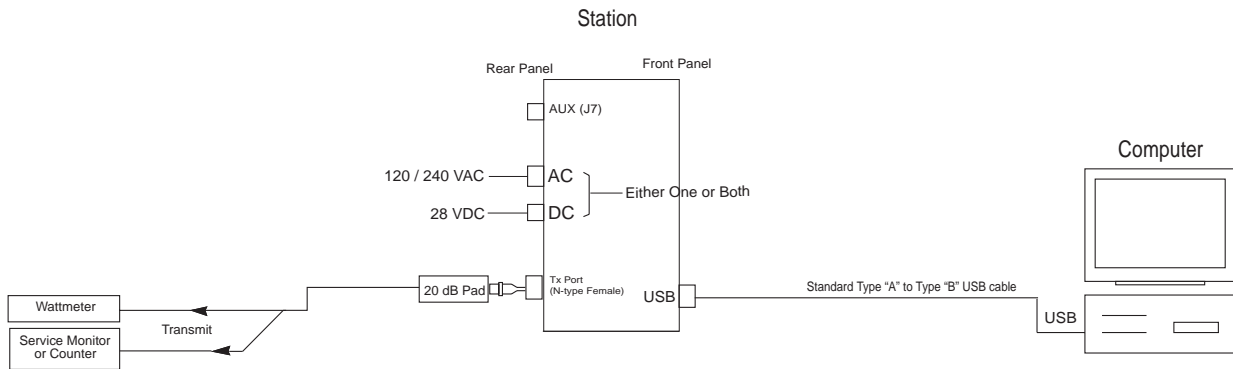

Figure 13-4 MTR3000 Base Station/Repeater Tuning Equipment Setup
A personal computer (PC), Windows™ operating system, and the MOTOTRBO Tuner application are required to tune the Station. To perform the tuning procedures, the base station/repeater must be connected to the PC and test equipment setup as shown in Figure 13-4.